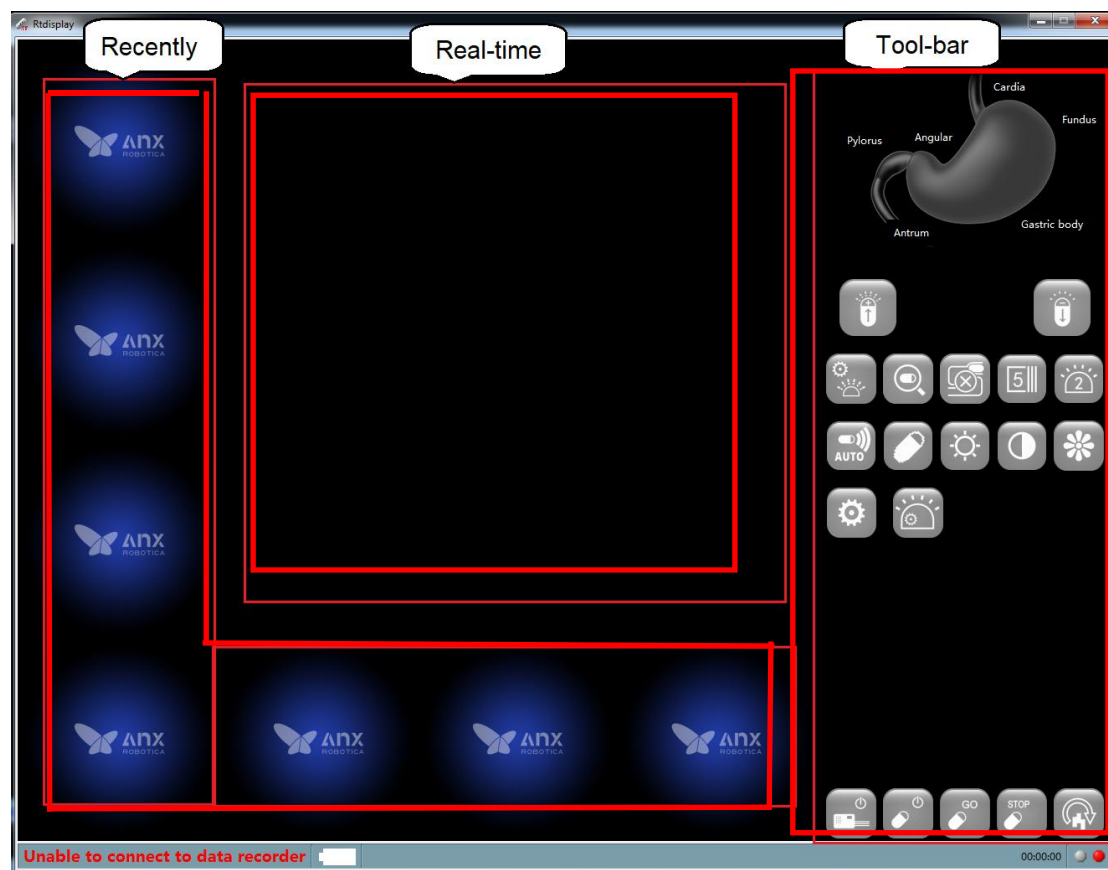

Figure 4- 14 Rtdisplay Interface
2. Rtdisplay interface is used to display images captured by the capsule endoscope inside the human digestive tract and adjust the capsule running status in real-time. The Data Recorder should be connected to the computer via USB for Rtdisplay. If the Data Recorder is not properly connected, the connection status display area on the status bar on the Rtdisplay interface as shown in Figure 4- 14 will display in red font **“Unable to connect to data recorder”**. In this case, images captured by the capsule cannot be displayed in real-time and buttons in the right toolbar are unavailable.